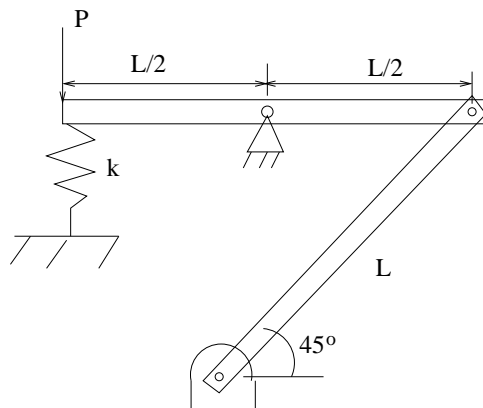

Figure 2: Problem 2.
2. In the setup shown in Fig. 2, find the deflection under the load P . All joints may be assumed to be pin-joints. Also assume that all elements such as the beams and the spring are unstressed before the application of the load. (25)